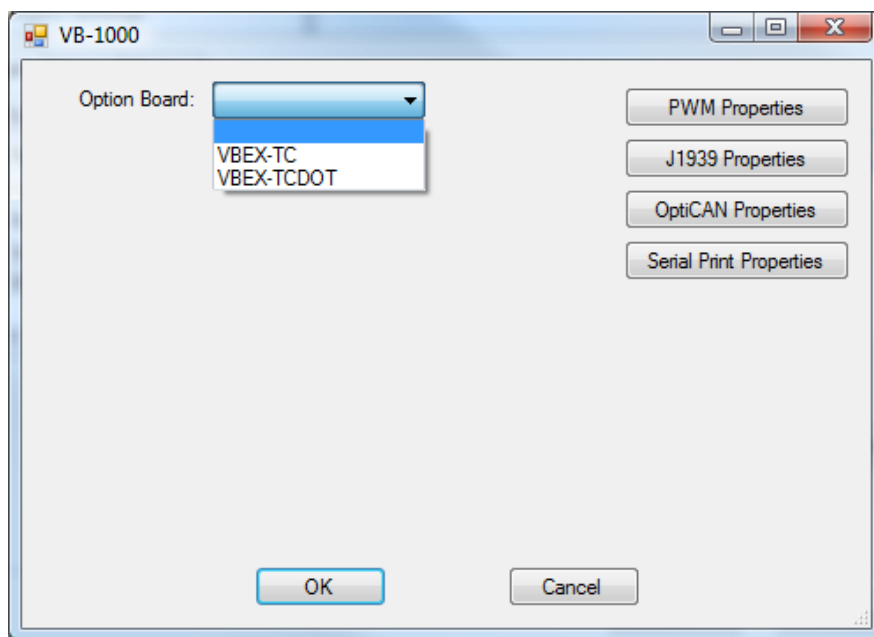

Figure 1.4 - VB-1000 Properties
3. Using the **OPTION BOARD** drop-down menu, select the VBEX-TC as shown in Figure 1.4.